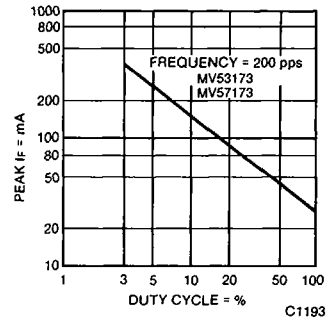

Fig. 3. Max Peak Current vs. Duty Cycle
- The curve in Figure 3 is normalized to the brightness at 25°C to indicate the relative efficiency over the operating temperature range.